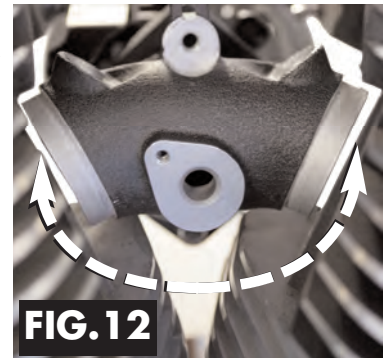

FIG. 12
- J. Check the alignment of both manifold intake flanges, going to each intake port of the front and rear head. What we are looking for is the same amount of an air gap on the front as there is on the rear port. We will also need to check up and down alignment of both ports. **See Fig 12.**